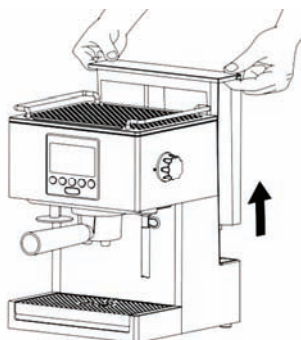

Fig. 1
- Remove the water tank (1) by pulling it upward (Fig. 1).